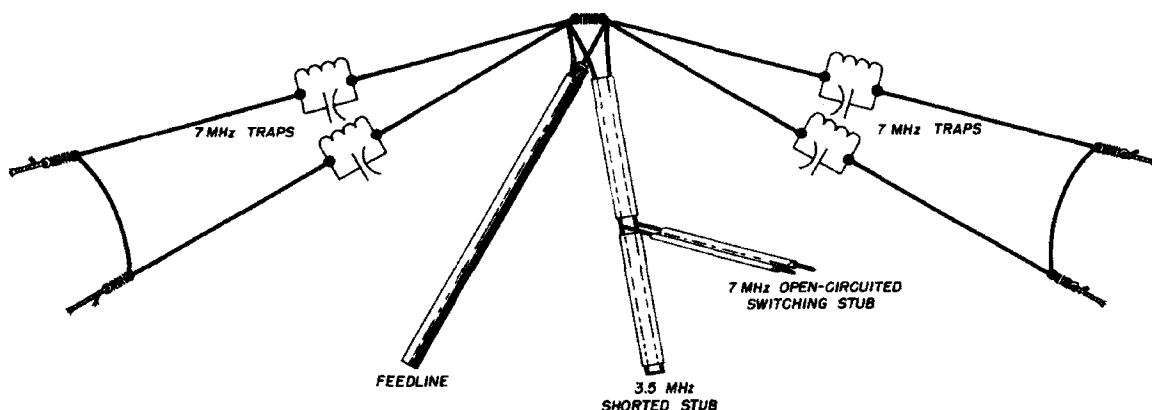

fig. 10. Broadband 80- and 40-meter fanned inverted-V, trapped for 40 meters. Stubs perform the same as in fig. 9.
2. A fan dipole with 40-meter traps in all of the wires, and a parallel quarter-wavelength stub (or slightly longer, possibly made of shielded tv foam cable coiled up) or bazooka with the automatic switching discussed above (see fig. 10).